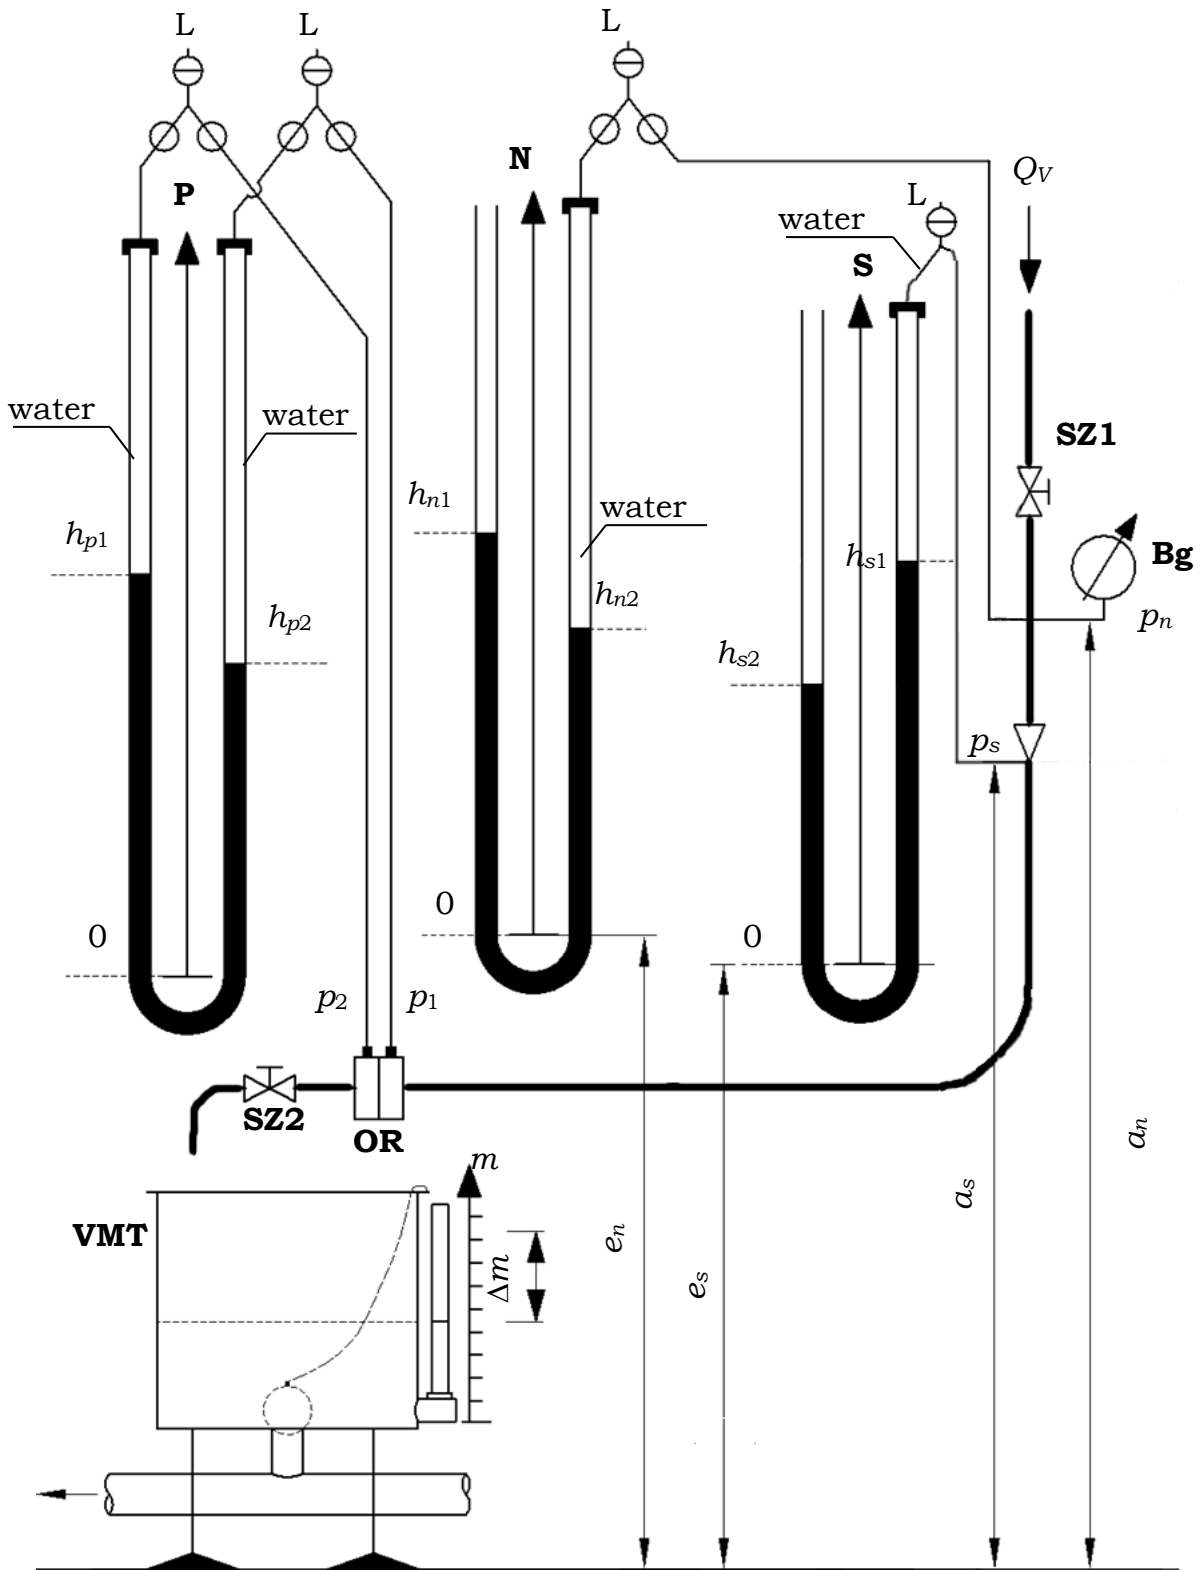
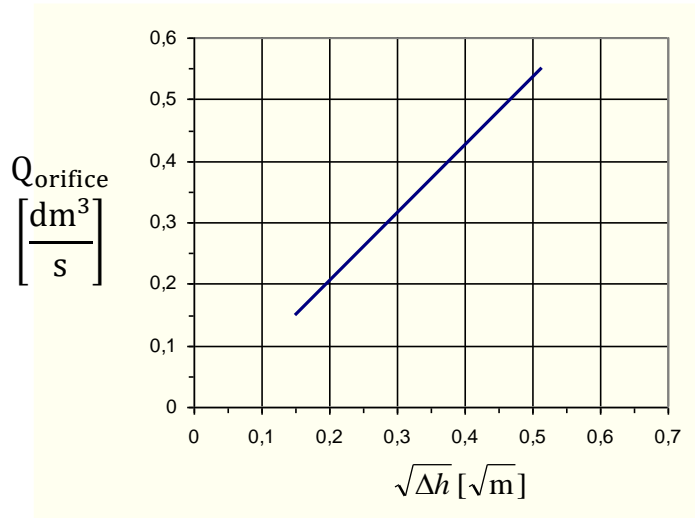

Figure 8 The measurement rig
Figure 10: The volumetric flow rate – level difference relationship of the orifice plate
- 3.1. exercise: determination of the pressures p_n and p_s** in the pipeline depicted in *Figure 8* at a given Q_V volumetric flow rate. The U-tube mercury manometers marked with N and S will be used. The p_n gauge pressure is also shown by the Bourdon-tube manometer denoted with Bg (p_{nBg}).
In the above equations, indices 1 and 2 refer to the higher and lower heights, respectively (**cf. Figure 8**). We read integer values in **mm**-s from the manometers, but in the numerical solution of the equations we **substitute the heights in meter units!**
Figure 10 shows the diagram of the orifice plate denoted by OR in Figure 8. In order to have an easy to handle linear relationship the square root of the liquid column height difference ($\Delta h = h_{p1} - h_{p2}$) is used, which can be **read from the manometer denoted by P**. Thus, the volumetric flow rate ($Q_{orifice}$) directly obtained after the reading of the manometer:
This volumetric flow rate can also be measured by a volume meter tank. **Volume meter tanks** can only be used when the system is open or can be opened up. The time of the liquid level rise is measured in a tank with a known cross section (Figure 8: **VMT**). According to the principle of communicating vessels, the level rise is observed in the glass tube connected to the tank. A scale is placed next to the glass tube. The time is measured by a stopwatch. Now the volumetric flow rate can be written as